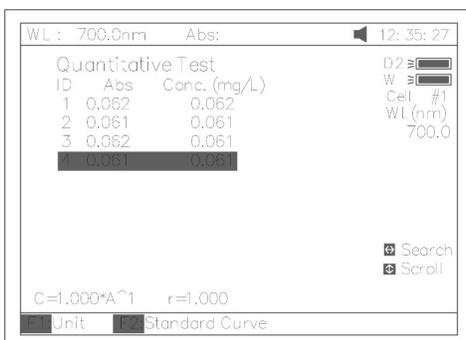

Fig 38
a) Pull the sample cuvette into Main Light Path, press the key **【START】**, the results will be displayed on the screen (Fig 38).